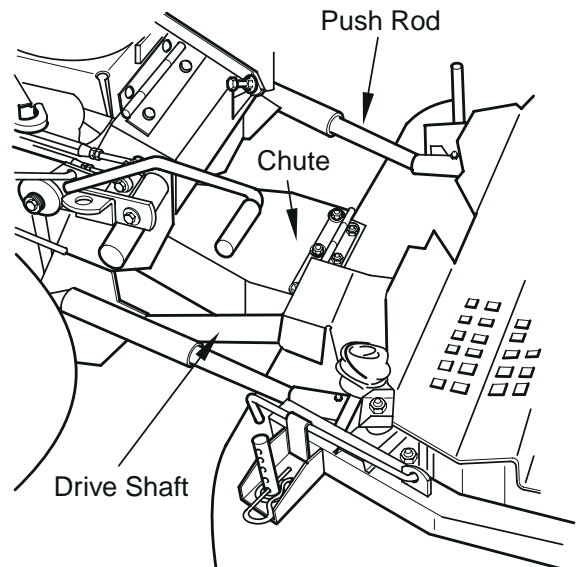

**Figure 4-17 Removing The Deck**
6. Pull the deck from the tractor as shown in Figure 4-17.